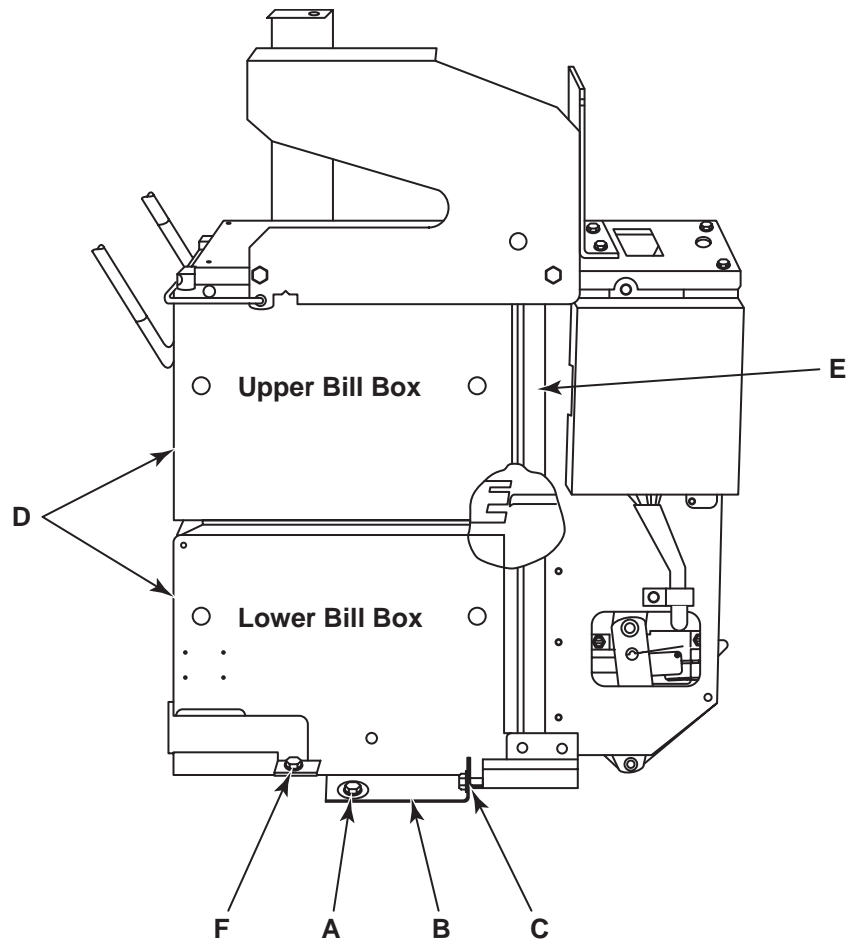

Figure 3-14. Mounting Plate Adjustment
Refer to *Figure 3-14* and adjust the lower bill box stop bracket and mounting plate so that the bottom bill box is aligned with the upper bill box and chute guides in the following manner:
3. Refer to *Figure 3-14* and make sure that the bill boxes (*D*) are tight against the chute guides (*E*) to get proper stacking.
4. Refer to *Figure 3-14* and loosen the two #8-32 screws (*F*) in the lower bill box stop bracket. Push the lower box tight against the chute guides. Push the lower bill box stop bracket tight against the bill box and tighten the two #8-32 screws.